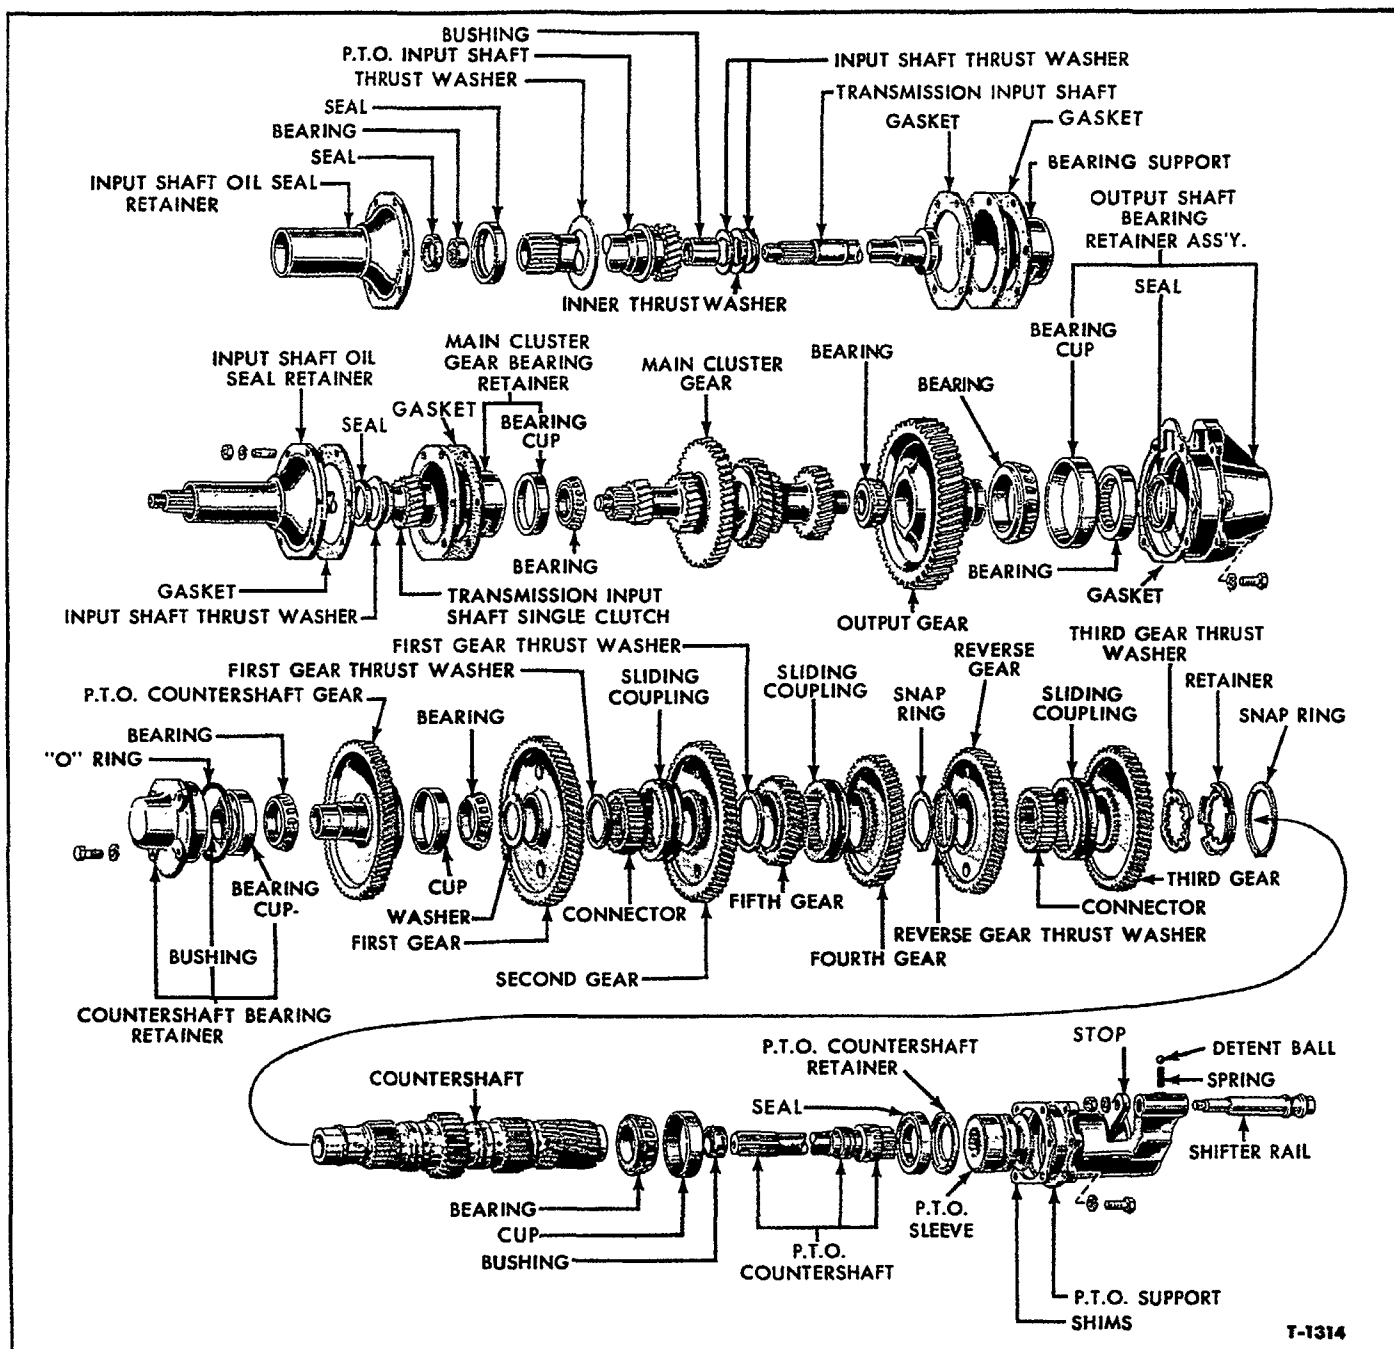

Figure 13—Gears and Component Parts
6. Remove the input shaft, oil seal retainer, and gasket, Figure 13, as an assembly.
14. Remove the transmission output gear, Figure 13, and remove the remaining expansion plugs.
19. Working from the rear of the case, remove the P.T.O. countershaft from the countershaft assembly, Figure 13. Remove the four front countershaft bearing retainer attaching bolts and lock washers, Figure 11. Remove the retainer and "O" ring seal from the case. Move the countershaft as far to the rear as possible and then lift it out of the case, front end first.